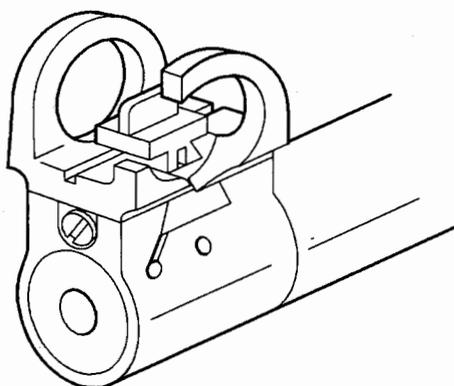

Fig 2 Foresight
4 The foresight, Fig 2, is a blade type mounted in a dovetail seating in a removable foresight protector. The protector is dovetailed to fit the foresight block and is removed when fitting a match foresight. The backsight is a folding leaf and slide pattern. The slide is adjustable and has an aperture. Graduations on the leaf are for ranges of 25, 50 and 100 metres with an additional harmonization (H) position provided for landscape target practices.